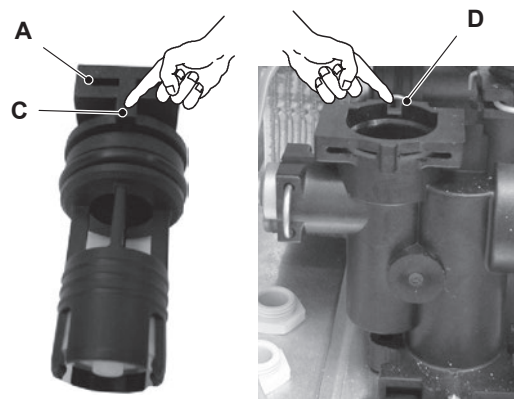

Figure 16.3
- 3 Remove the locking plate B and pull up the by-pass valve A (Figure 16.3).
Attention: when reassembling the By-pass valve be sure that it is correctly oriented by matching the reference C with the notch D of the water group Figure 16.3.